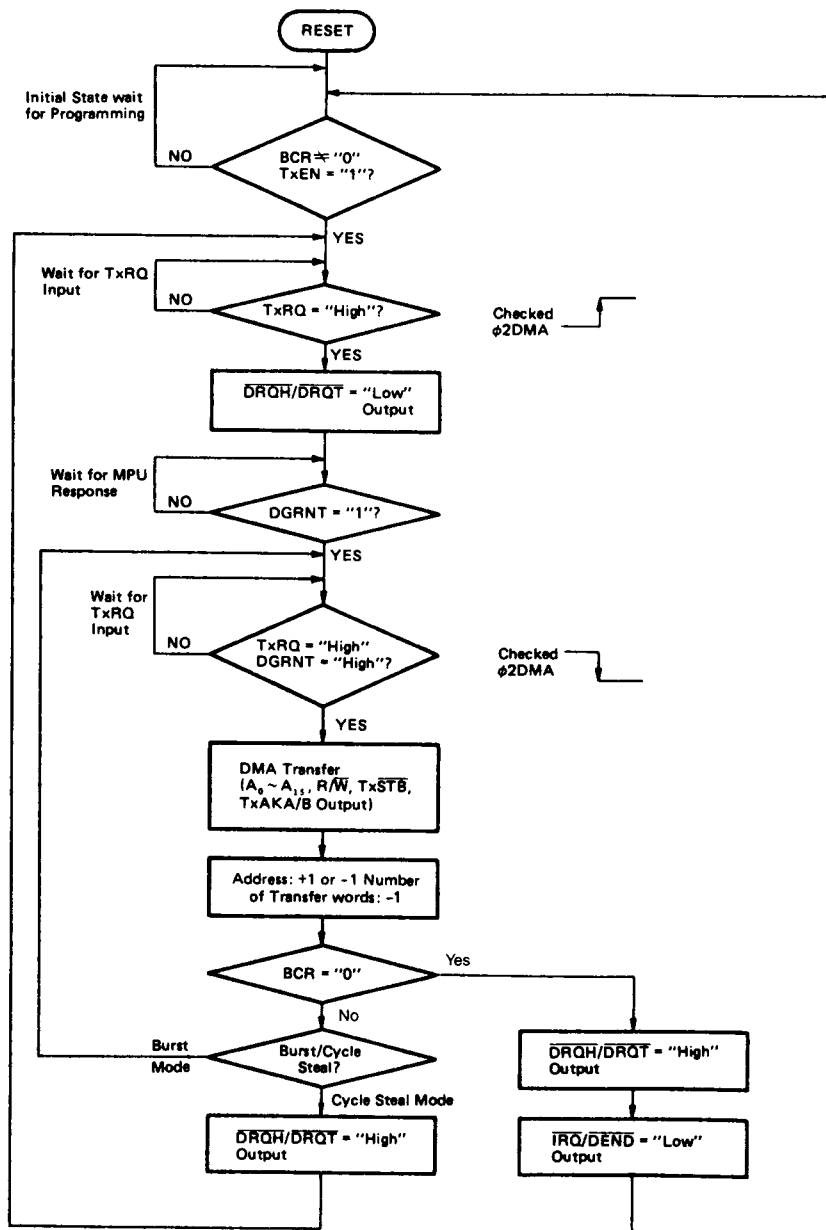
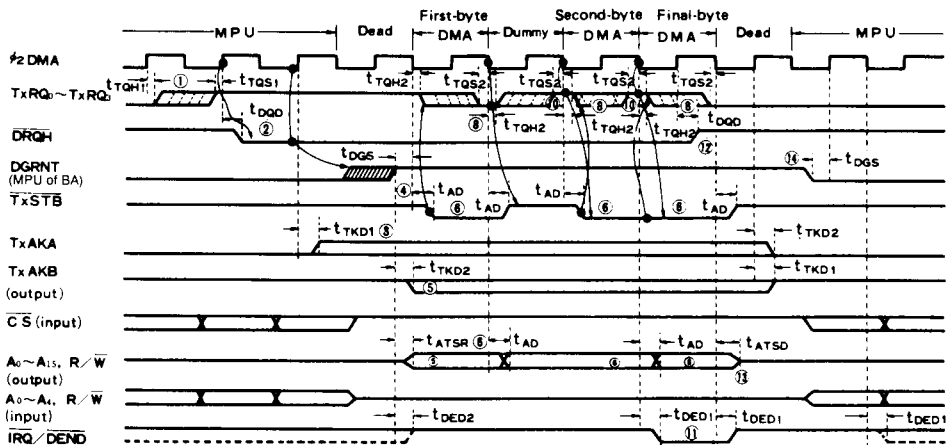
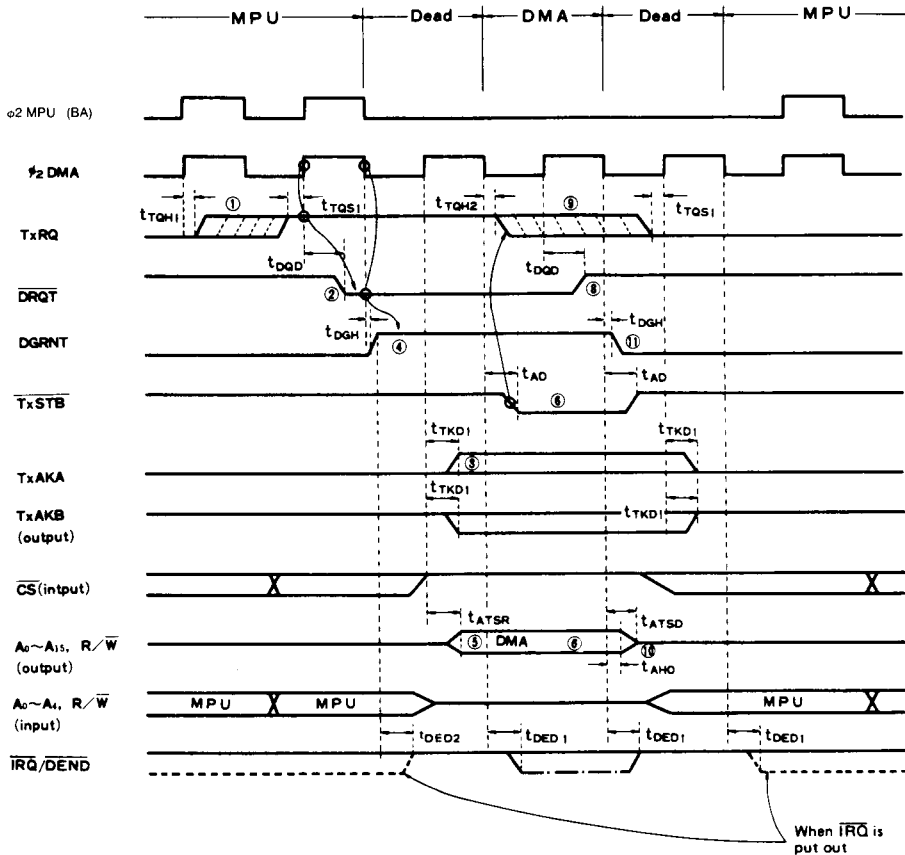

Figure 13 Flow Chart of DMAC Operation
Figure 16 HALT Burst Mode
Figure 17 TSC Cycle Steal Mode
Its timing chart and flow chart are shown in Fig. 16 and Fig. 13 respectively. Procedure of transfer is the following (No. ① ~ ⑭ in Fig. 16 correspond to the following items).
- ① TxRQ input is checked at the rising edge of ϕ_2 DMA. When it is at "High" level, it gets into the following operation.
- ② $\overline{\text{DRQH}}$ ="Low" level is given and MPU is requested to stop its operation.
- ③ TxAKA is driven.
- ④ MPU stops and DMAC waits for DGRNT rising "High" level.
- ⑤ When DGRNT rises "High" level, DMAC drives TxAKB, $A_0 \sim A_{15}$, and R/W lines.
- ⑥ TxSTB is sent out to perform DMA transfer.
- ⑦ Address is incremented or decremented by one and number of transfer words is decremented by one.
- ⑧ TxRQ falls to "Low" level.
- ⑨ When number of transfer words is 0, from ⑪ to ⑭ operations are performed.
- ⑩ When BCR is not "0", TxRQ is checked at the falling edge of ϕ_2 DMA. When TxRQ is at "High" level, DMA transfer is performed through ⑥ ~ ⑧ again. When TxRQ is not at "High" level, DMAC waits for becoming "High" level.
In burst mode, TxRQ should be also, in principle, set to "High" when I/O request is asserted, and reset to "Low" when TxSTB goes to "Low". If TxRQ is asserted as level input without being reset, DMA transfer is performed at all cycles of ϕ_2 DMA since TxRQ is always at "High" level at the falling edge of ϕ_2 DMA. Its example is shown in the second-byte and the third-byte transfer in Fig. 16.
Its timing chart and flow chart are shown in Fig. 17 and Fig. 13 respectively.